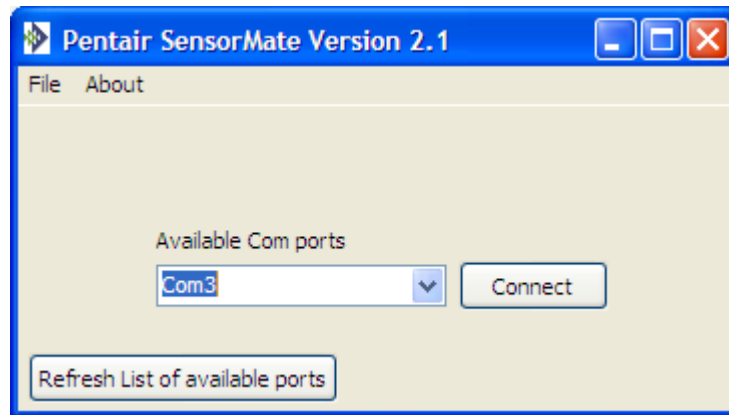

Figure 1 – Connect Window
4. The Connect Window will appear as shown in Figure 1.